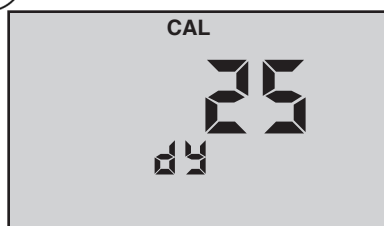

Figure 12
9. Press $\frac{\text{CAL}}{\text{MCLR}}$ to accept the change (new day) (see Figure 12).